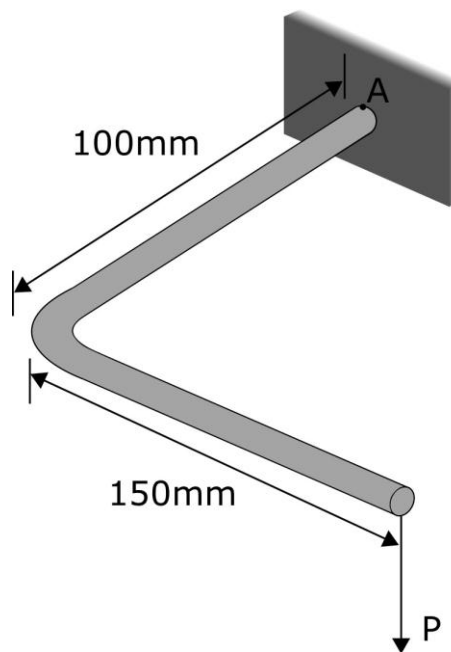

Figure Q6
- (d) The angled bar shown in Figure Q6 is subjected to a load, P , as shown. The yield stress of the material is 250MPa. Considering both the Tresca and von Mises yield criteria, for each case determine the maximum value of P that will just cause yielding to occur in the bar at point A. [16 marks]